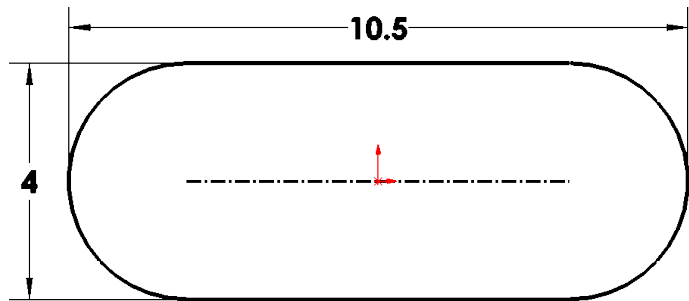

Fig. 7
Step 5. Click **Smart Dimension** (S) on the Sketch toolbar.
Step 6. Add dimensions, Fig. 7. To wake up midpoint of radii, hover cursor over circular entity.